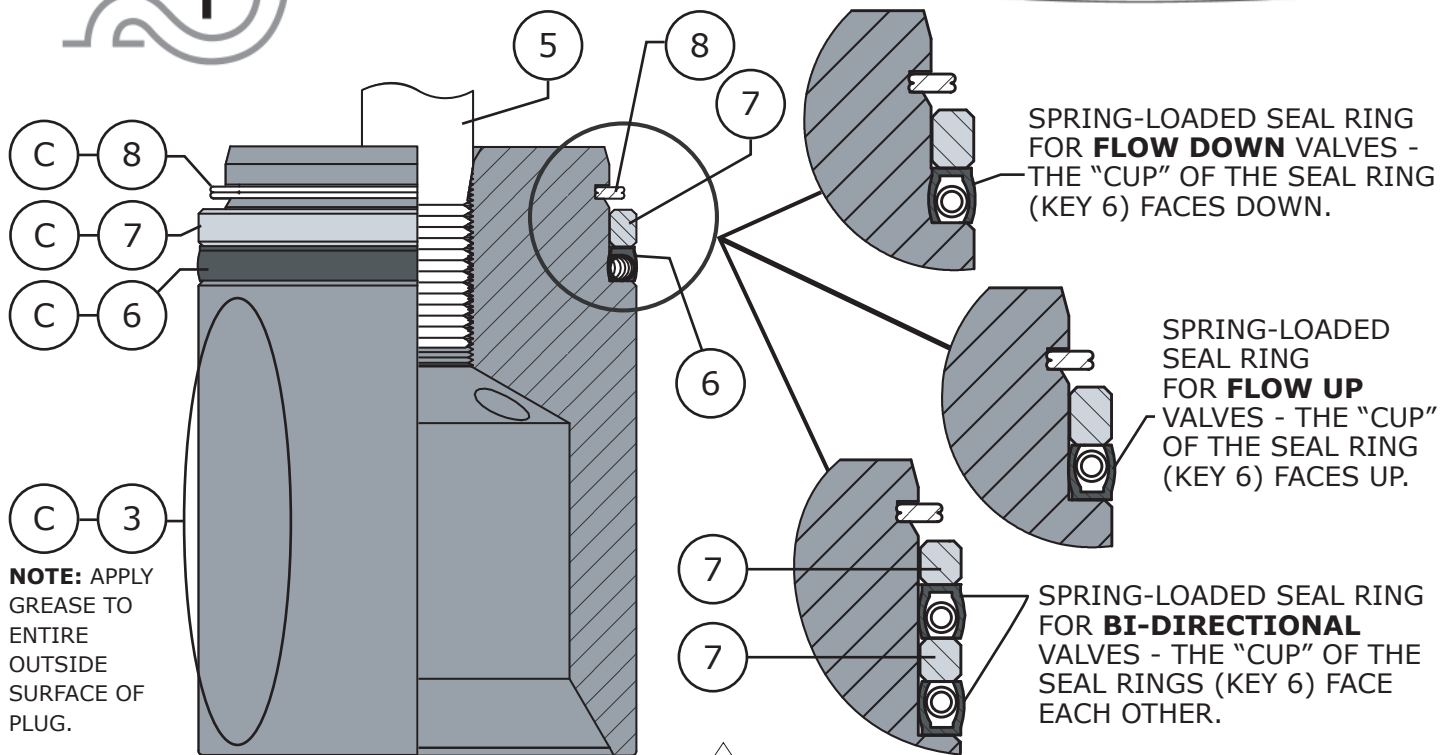
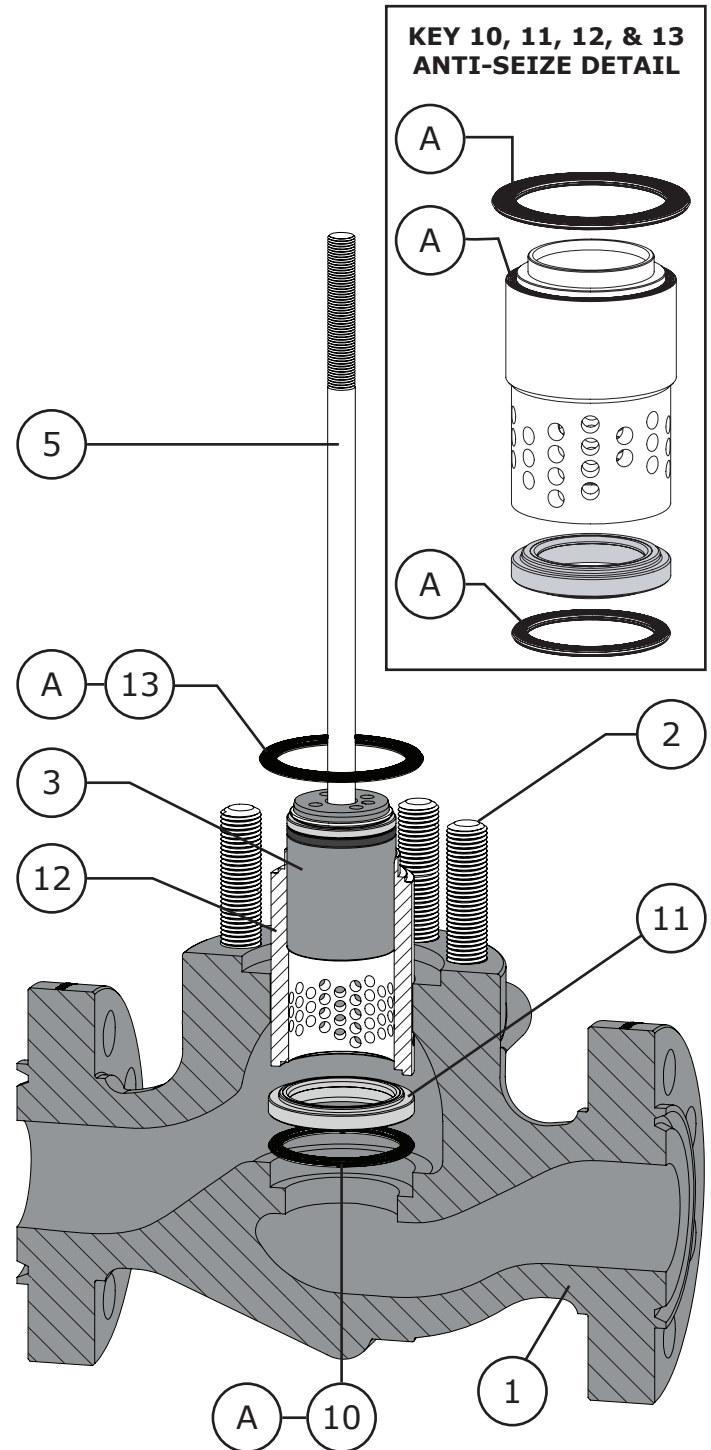

Figure 17 Model 390 Plug Seal Standard Assembly
Figure 22 Trim Parts Assembly
- 2 Install the seal ring (Key 6) onto the valve plug (Key 3), refer to Figure 17 for proper seal ring orientation.
- 1 Apply anti-seize compound (Key A) to the top and bottom surfaces of the seat ring gasket (Key 10). Install the seat ring gasket into the valve body (Key 1). See Figure 22.
- 4 Apply white petroleum grease (Key B) to the side of the valve plug (Key 3) (See Figures 17 & 19). Install the valve plug assembly into the cage (Key 12) (See Figure 22).